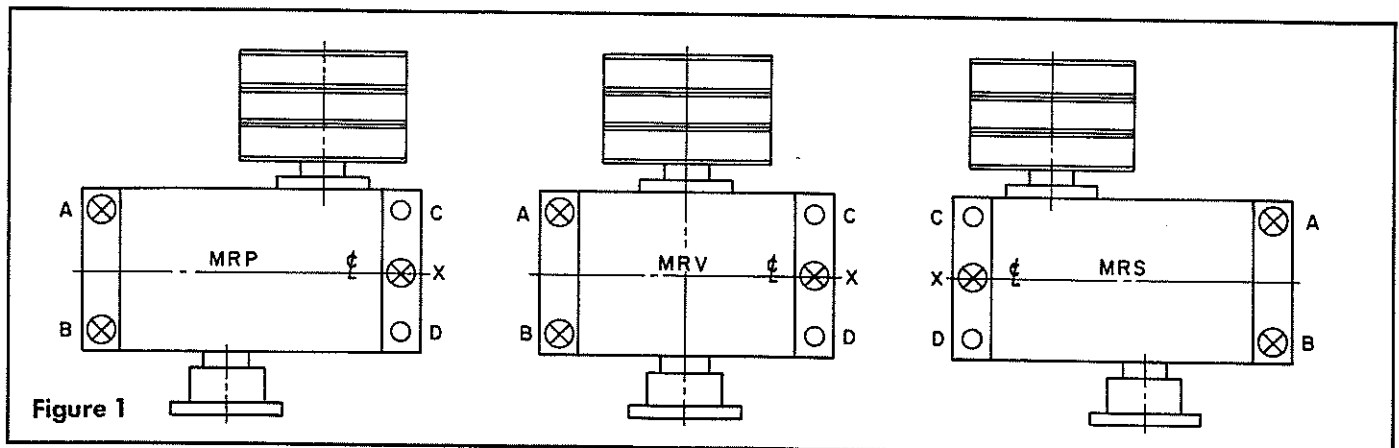

Figure 1
2. Place unit on foundation in approximate position, using jackscrews in mounting flange or temporary shim packs at "A" and "B," and a shim pack at "X," for initial support. See Figure 1.